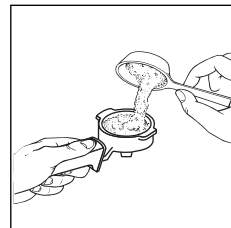

fig. 8
2. To prepare a single coffee, fill the filter with a level measure of ground coffee, about 7 g (fig. 8). To prepare two coffees, use the filter and fill with two loosely filled measures of ground coffee (about 6+6 g). Fill the filter in small doses to prevent the ground coffee from overflowing.